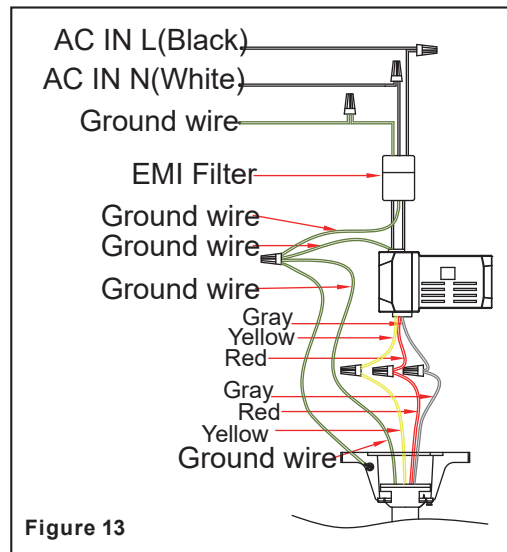

Figure 13
Step 1. Connect green wires from EMI filter and related parts according to the wiring diagram as shown in Figure 13, make sure EMI filter is properly seated in outlet box.
Step 3. Motor to receiver electrical connections: Connect the grey wire from the fan to the grey wire from the receiver. Connect the red wire from the fan to the red wire from the receiver. Connect the yellow wire from the fan to the yellow wire from the receiver. (Fig.13)
Step 4. Receiver to house supply wires electrical connections: Connect the black (hot) wire from the ceiling to the black wire marked "AC IN L" from the receiver. Connect the white (neutral) wire from the ceiling to the white wire marked "AC IN N" from the receiver. (Fig.13)